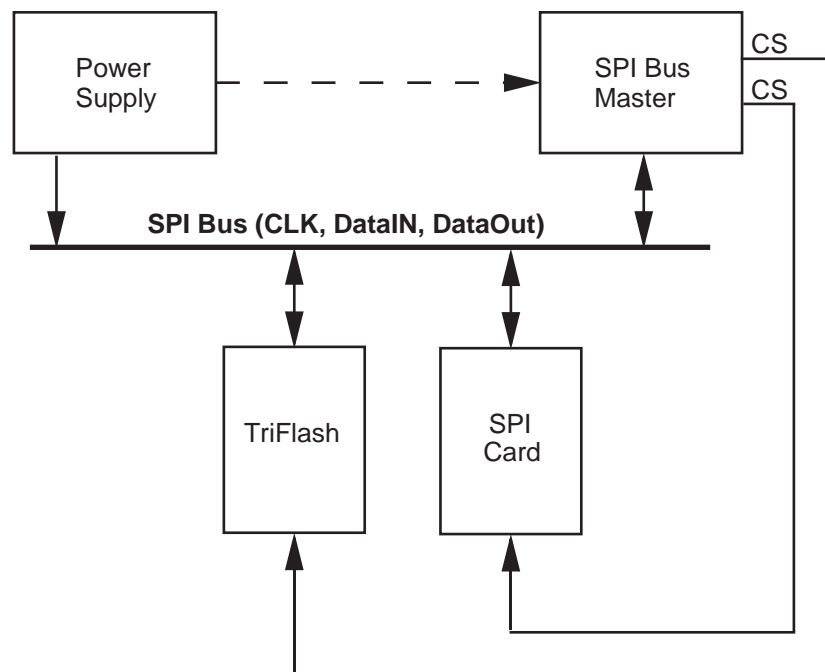

Figure 3-2. SPI Bus System
The TriFlash identification and addressing algorithms are replaced by a hardware Chip Select (CS) signal. A device (slave) is selected, for every command, by asserting (active low) the CS signal (see Figure 3-2).